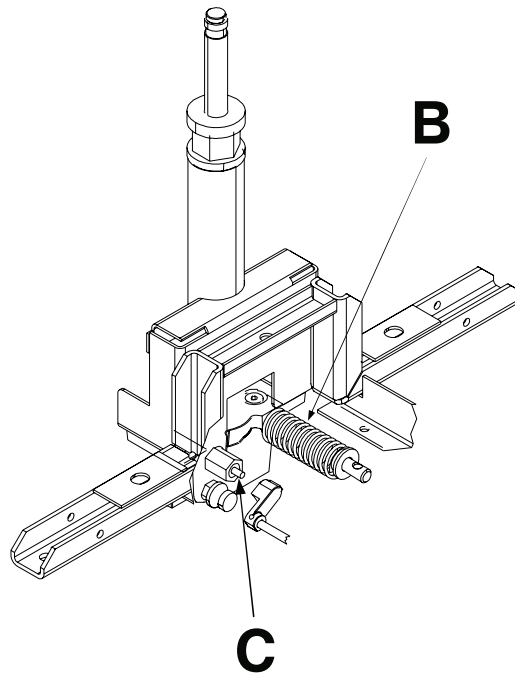

Figure 4 – Jack springs and descent valve pins
2. If dry, apply a thin layer of OG2 grease (M0027) to the jack springs (B) (Figure 4).
3. Apply OG2 grease (M0027) to the descent valve pins (C) (Figure 4).